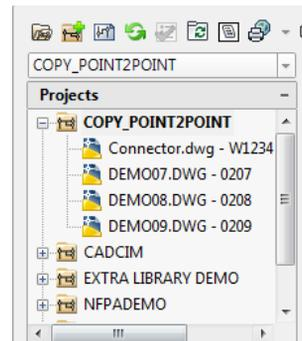

Figure 2-72 The **Copy_Point2Point** project with the drawings added to it
- Choose the **No** button from this message box; the selected drawings are added to the **Copy_Point2Point** project, as shown in Figure 2-72. If the drawings are not displayed in the **Copy_Point2Point** project, choose **Refresh** from the **PROJECT MANAGER**.